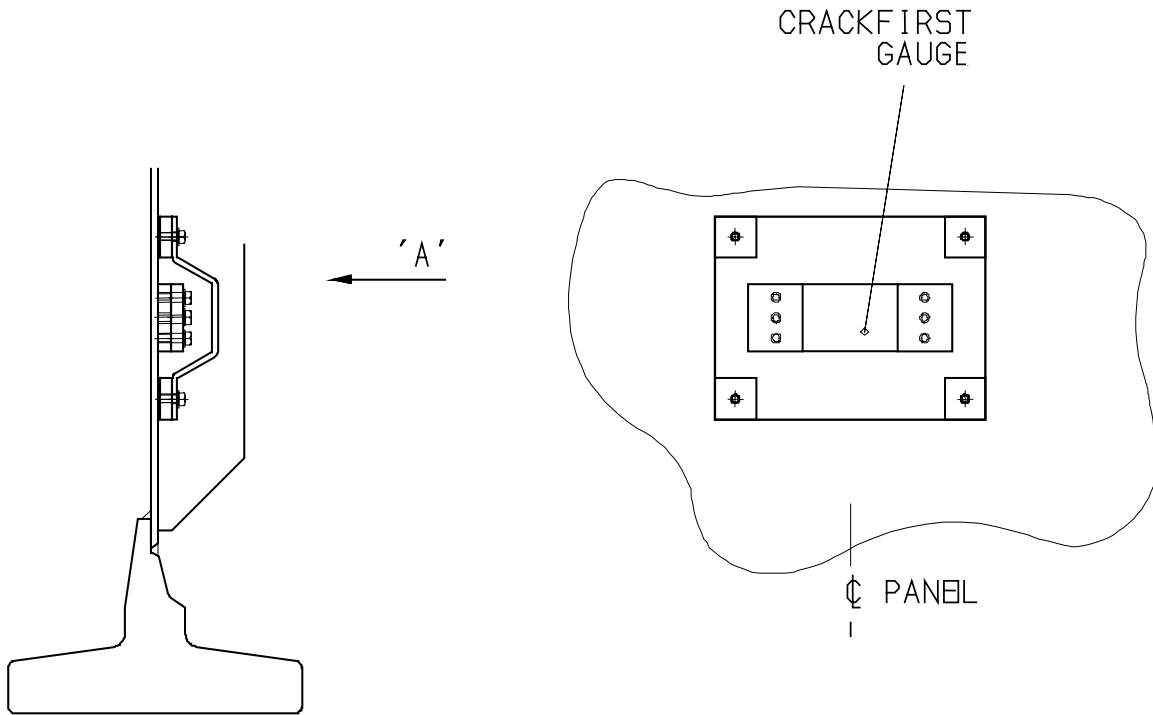
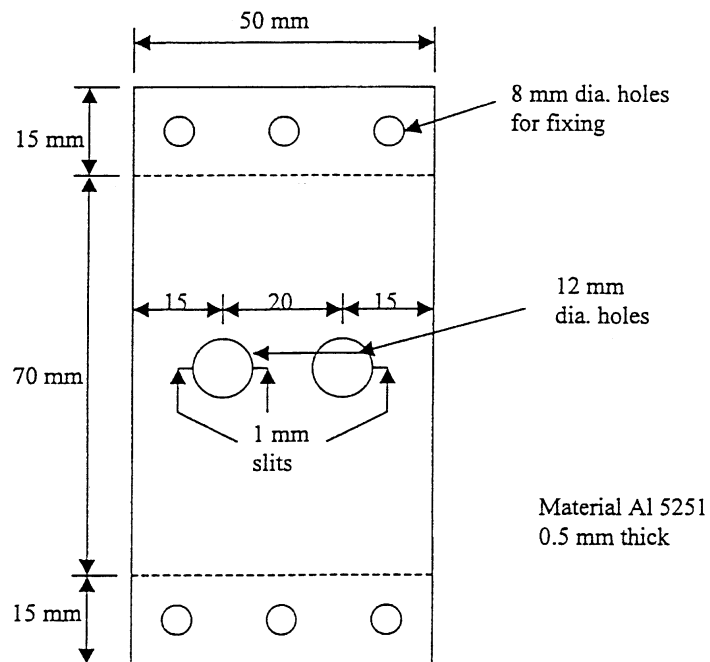

Figure A. 3 Scrap View in Circle C on Inside Face of Panel
Figure A. 4 Detail CrackFirst Fatigue Monitoring Gauge Plate
- A.1.1.7 This system includes the use of **CRACK FIRST** fatigue-monitoring gauges. See Figure A. 3 and Figure A. 4. The gauge has two 12mm holes, which are pre-notched so that a crack will start from a known point. As the panel is trafficked, the crack will grow in length until the coupon finally fails. Once failed the bridge module must be taken out of service. The fatigue monitoring gauges are only fitted to the Parallel Modules.